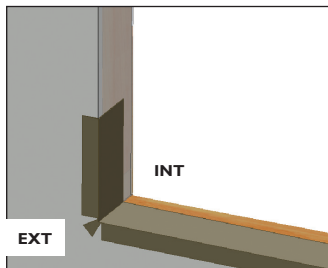

FIG. 6
D) Apply sill flashing to the rough opening as shown below. (Fig. 6)